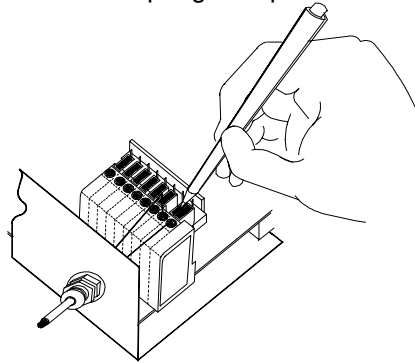

Figure 2.6 - System cable connections to the junction box
- Using a device such as a screwdriver, push down on the orange lever directly above the clamp (see Figure 2.6).